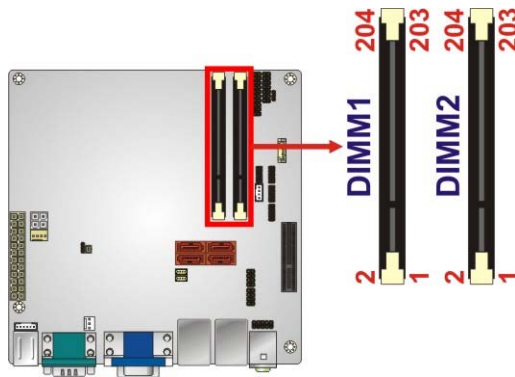

Figure 3-6: DDR3 SO-DIMM Slot Locations
- CN Location:** See **Figure 3-6**